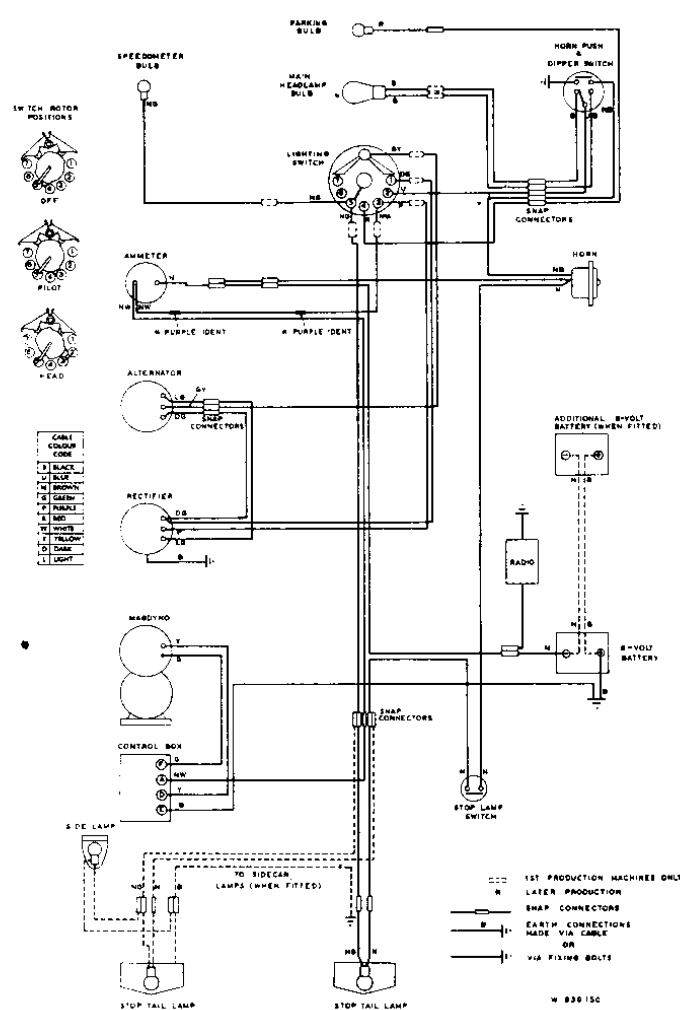

Fig. 56 Double Generator installation with Alternator, Magdyno and, either model U39 or 41SA Lighting Switch.
*For U39, 41SA, 63SA and 88SA equivalents, see page 26 and Fig. 56 caption.